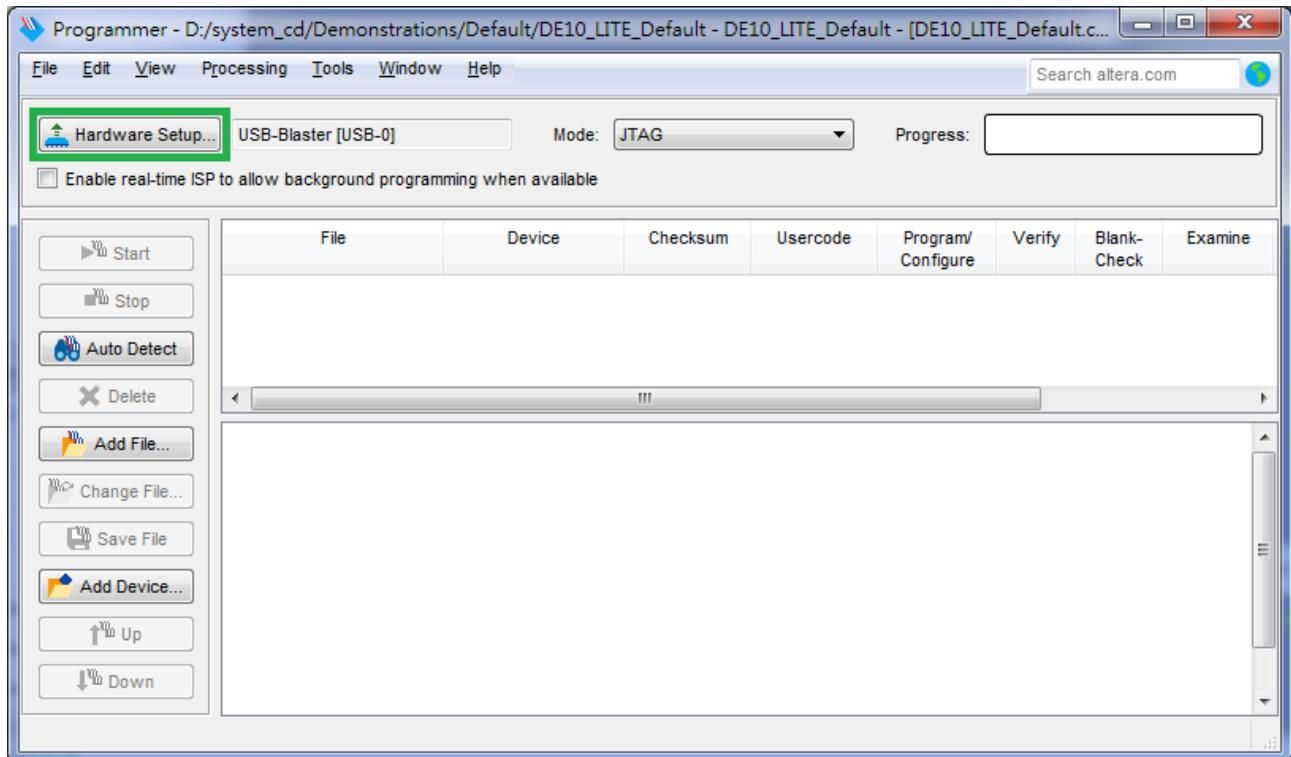

Figure 3-2 Programmer Window
1. Open the Quartus II programmer, please Choose Tools > Programmer. The Programmer window opens. See **Figure 3-2**.
2. Click “Hardware Setup”, as circled in **Figure 3-2**.